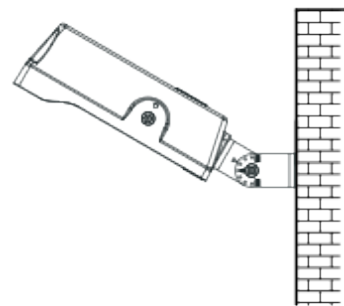

figure 6.6
Step 3: Loosen screws; Adjust fixture angles as per actual demands and tighten screws later. (figure 6.6) Tips: Angles of the fixture is adjustable.